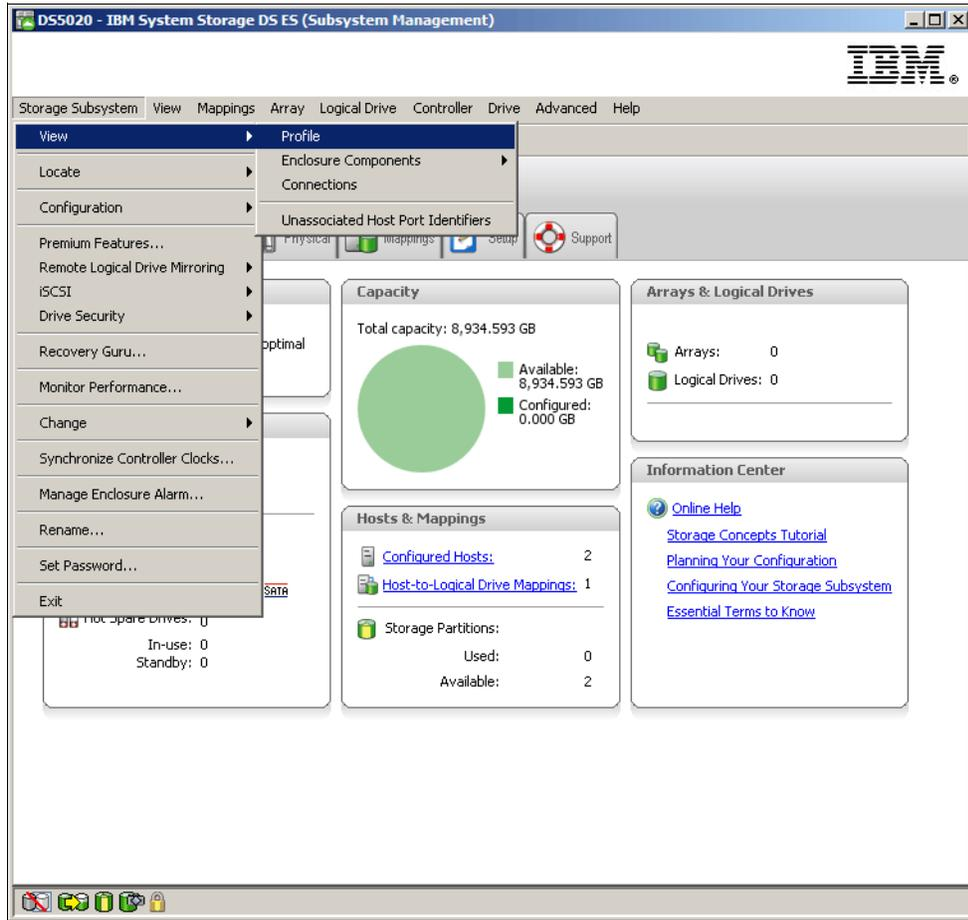

Figure 10-45 Select the profile
- ▶ Go to IBM System Storage DS ES (Subsystem Management, and in the top menu, select **Storage Subsystem** → **view** → **Profile** as shown in Figure 10-45.